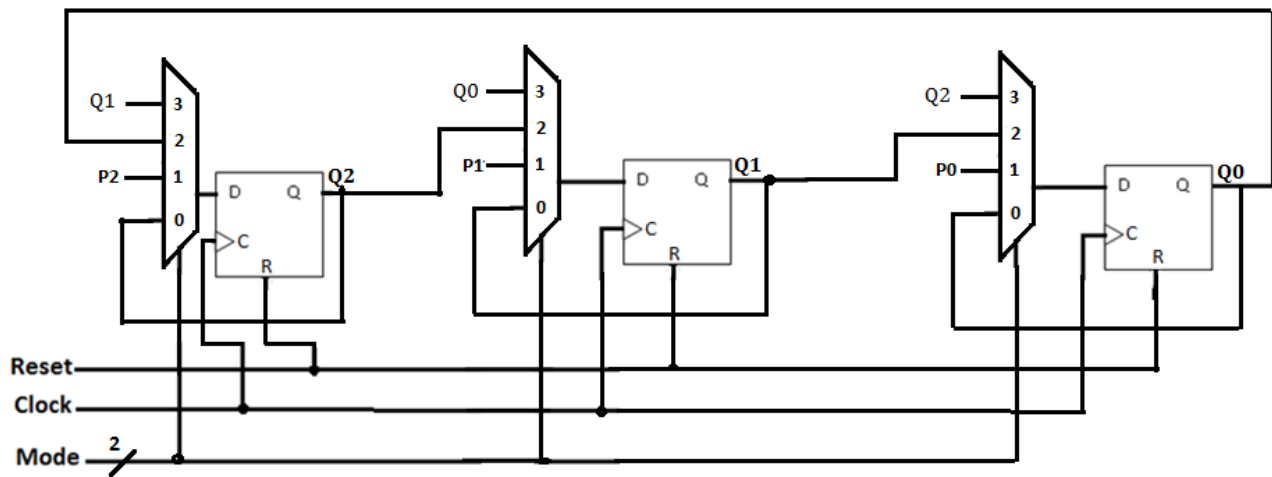

Figure3. 3-bit Register Diagram
1. In the file *reg3b.v*, write a Verilog module that implements the 3-bit register shown in Figure 3 structurally.